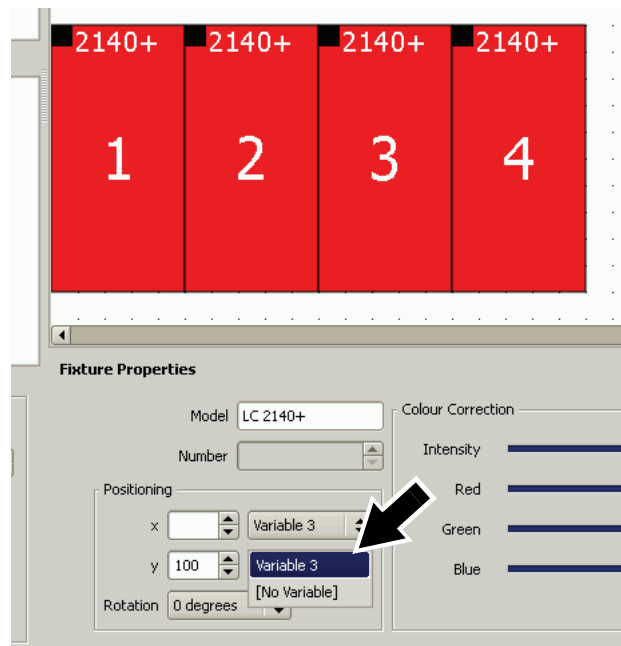

Figure 25: Custom Position variable in Setup window
- When you have selected the panels you want to control with the **Position Variable**, look at the **Positioning** box at the bottom of the **Setup** window (see Figure 25). Here you can select the **Position Variable** in the drop-down lists (arrowed) to assign it to control **x** and/or **y** axis positioning.
*In Figure 25, panels 1 - 4 have been selected, so the **Variable** will be applied to these panels. **Variable 3** has been selected for both **x** and **y** axes, so **Variable 3** will move panels 1 - 4 diagonally relative to the video image. Note that if panels are moved up relative to the video image, the image will appear to move down when you view the installation.*